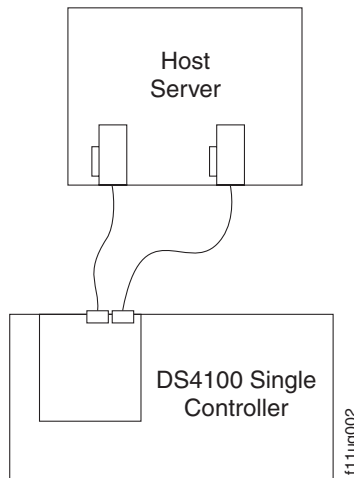

Figure 29. Example of a single server configuration with two adapters (single-controller storage subsystem)
- Single server configuration with two adapters, as shown in Figure 29 on page 43